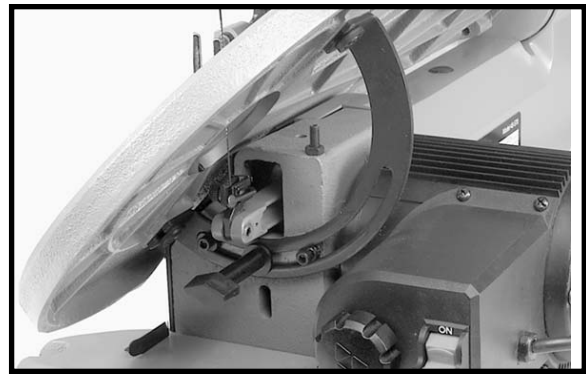

Fig. 28
2. Tilt the table 45° to the left as shown in Fig. 28.